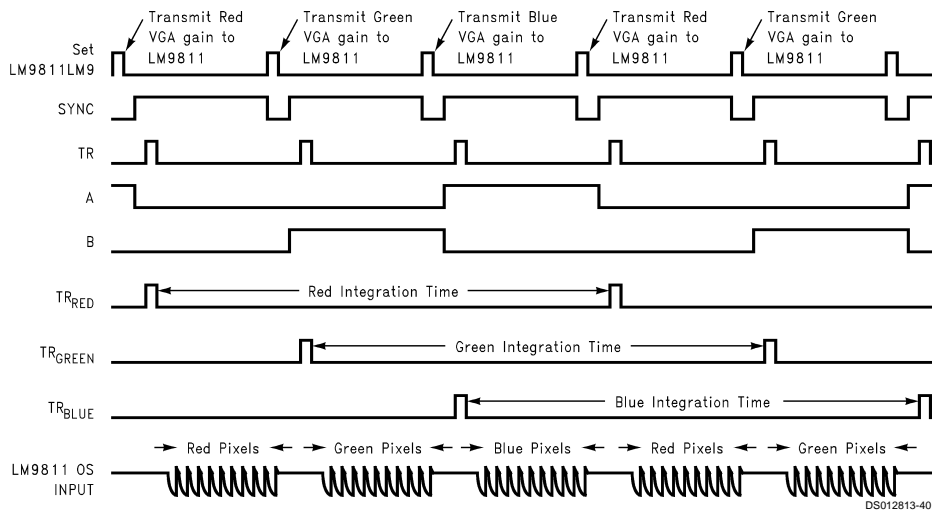

FIGURE 32. Parallel Output CCD Timing
To maximize the integration time for the Red, Green, and Blue photodiodes, the transfer (TR) pulses should be staggered as shown in Figure 32. This is done by a demultiplexer (Mux 2) between the TR output of the LM9811 and the transfer gate inputs of the CCD. If the CCD's transfer gate input capacitance is relatively low (see the CCD datasheet for this specification and the requirements for TR pulse rise and fall time), then the other half of the 74HC4052 may be used to switch the TR pulses as shown. If the TR gate input capacitance is so large that the minimum TR rise and fall times can not be met because of the 200Ω max on resistance of the 74HC4052's switches, then the 74HC4052 can not be used to multiplex the TR output and should be replaced with an active demultiplexer such as the 74HC155 dual 2-to-4 demultiplexer.